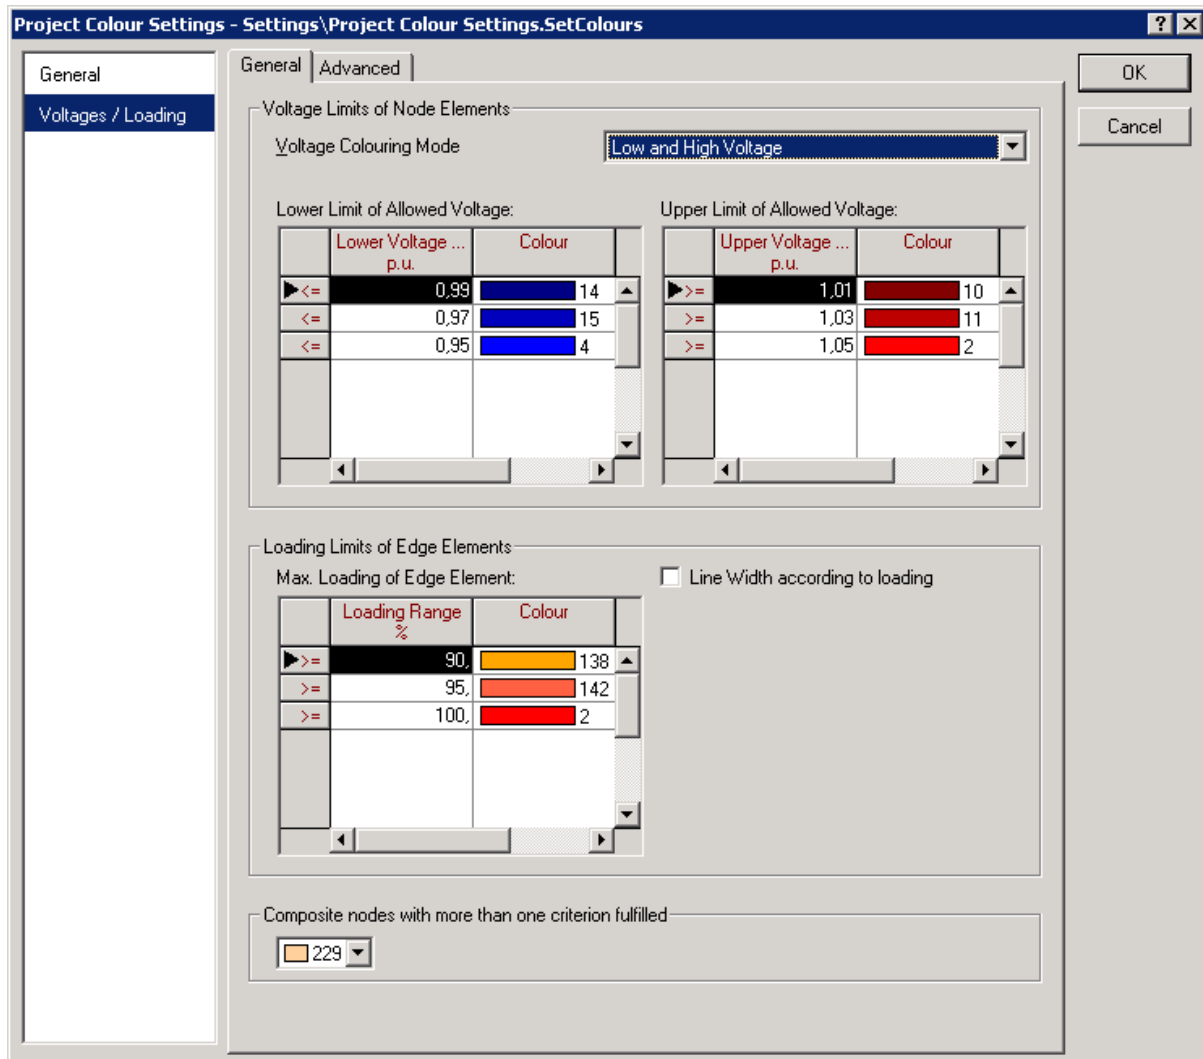

Figure E.5.1: Colour Representation of Graphic
- On the load flow page, select 'Colour settings' from '3. Others' ensuring 'Results' and 'Voltages / Loading' is selected from the drop down lists. The 'Project Colour Settings' dialogue will open (Figure E.5.1).
- The dialogue window should look like Figure E.5.1 now. Close the dialogue with **OK**.